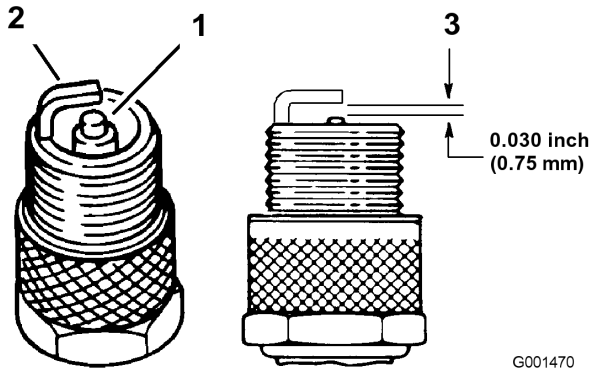

Figure 37
1. Look at the center of the spark plugs (Figure 37).
3. Check the gap between the center and side electrodes (Figure 37). Bend the side electrode (Figure 37) if the gap is not correct.